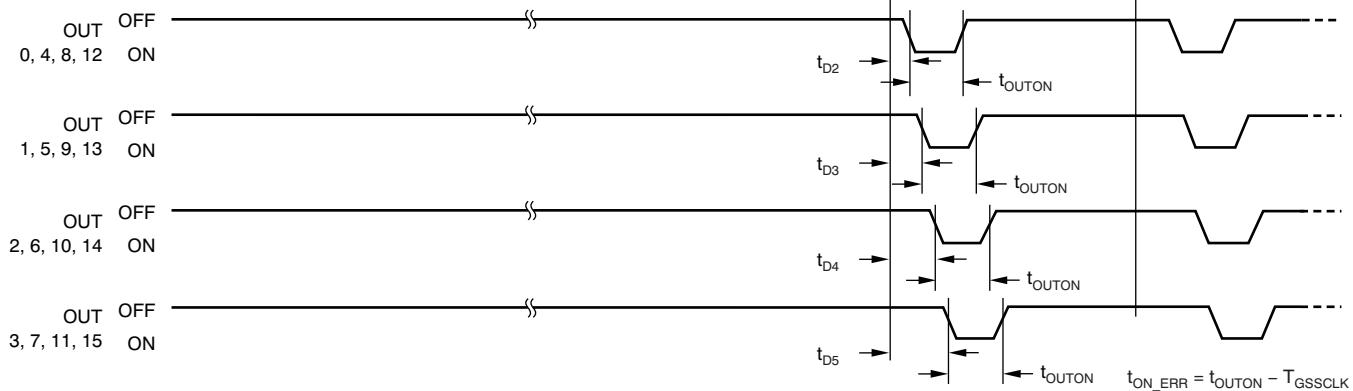
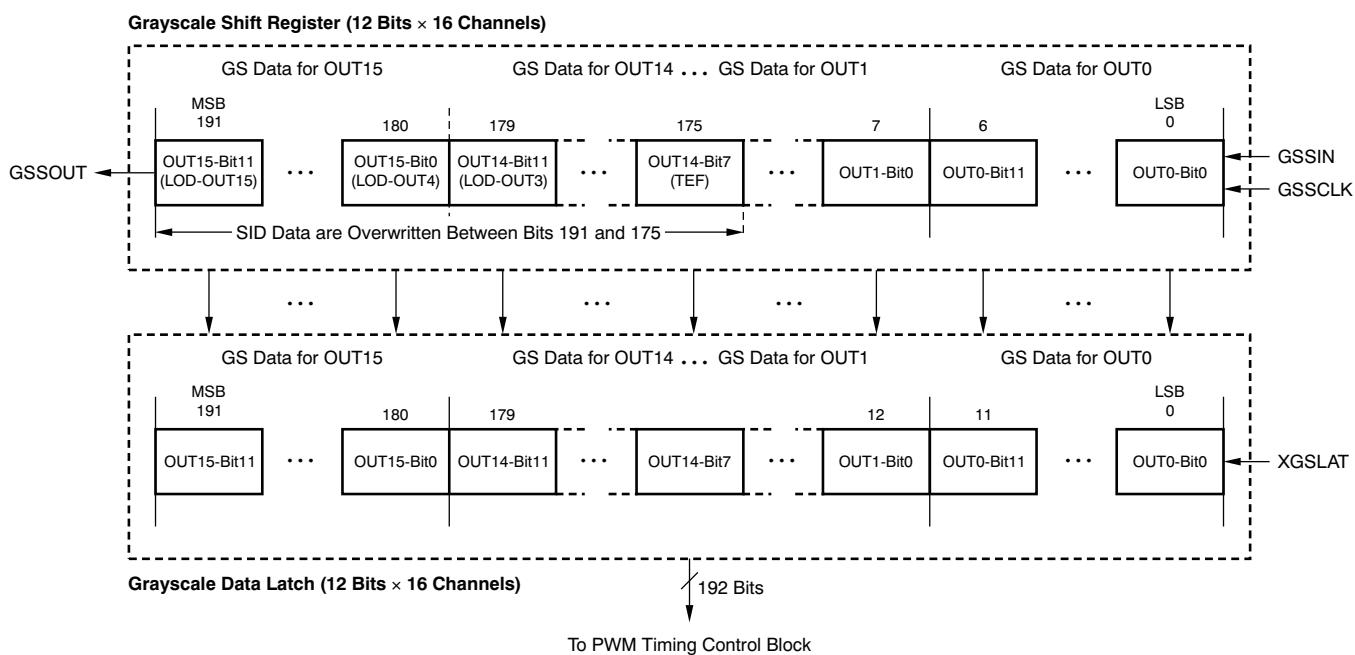

Figure 9. Grayscale Data Write Timing
Figure 22. Grayscale Shift Register and Data Latch Configuration
The Grayscale (GS) Shift Registers and data latches are each 192 bits in length, and are used to set the PWM timing for each constant current driver. See Table 3 for the ON time duty of each GS data bit. Figure 22 shows the shift register and latch configuration. Refer to Figure 9 for the timing diagram for writing data into the GS shift register and latch. The driver on time is set by the data in the GS data latch. GS data present on the GSSIN pin are clocked into the GS Shift Register with each rising edge of the GSSCLK pin. Data are shifted in MSB first. Data are latched from the shift register into the GS data latch with a rising edge on the XGSLAT pin.